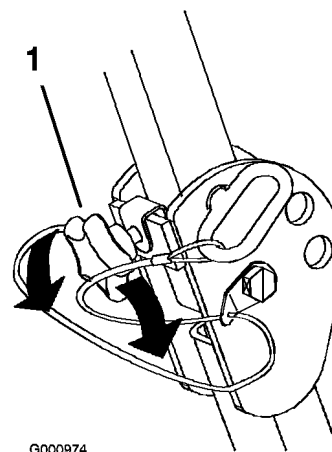

Figure 8
1. To lower the roll bar, loosen the front knobs (Figure 8).
Important: Tighten the front knobs against the center roll bar ends (Figure 8).